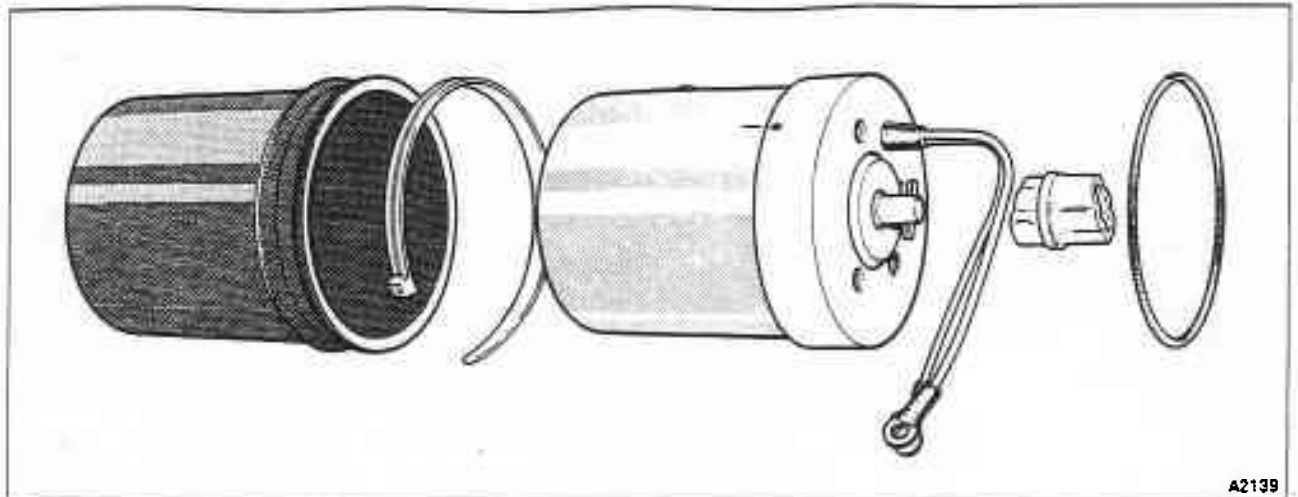

Fig. T6-7 Gearchange actuator motor
1. Tap out the driving pin from the driving shaft (see fig. T6-7). Remove the rubber boot.
Assemble the actuator motor by reversing the procedure given for dismantling, ensuring the marks on the casing are in line (see fig. T6-7). Test the motor after assembly, if the current consumption exceeds 1.5 A, the armature has an electrical fault and should be renewed.